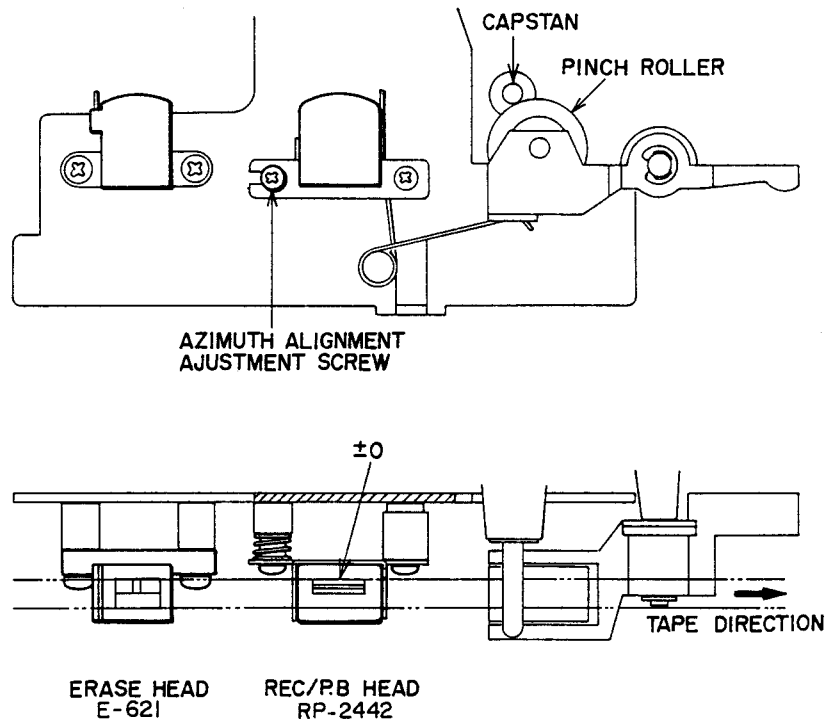

Fig. 13 Head Adjustment
AZIMUTH ALIGNMENT (Refer to Fig. 13)
- a) Playback a 10 kHz pre-recorded cassette azimuth alignment test tape and adjust screw shown in Fig. 13 to obtain maximum output on both channels.